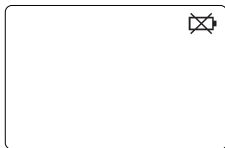

Figure 7
1. Replace battery when "  " appears in the upper right corner of LCD display. (See Figure 7)